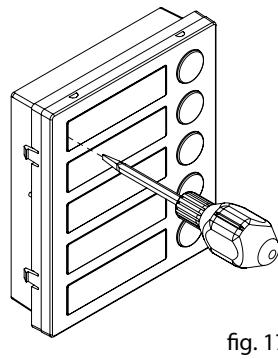

fig. 17
- Insert the screwdriver (flat side) into the card-holder hole as shown in **Fig. 17**;